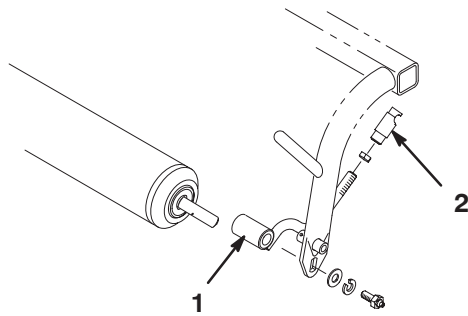

Figure 7
- A. Remove the fasteners securing the roller shaft and pull arms to each end of the carrier frame (Fig. 7).
- B. Install the roller and new pull arm assemblies to the carrier frame with the fasteners that were previously removed (Fig. 7). Position the pull arms so that they bend outward.
- C. Assemble a jam nut and ball joint receiver onto each pull link assembly as shown in Figure 7.